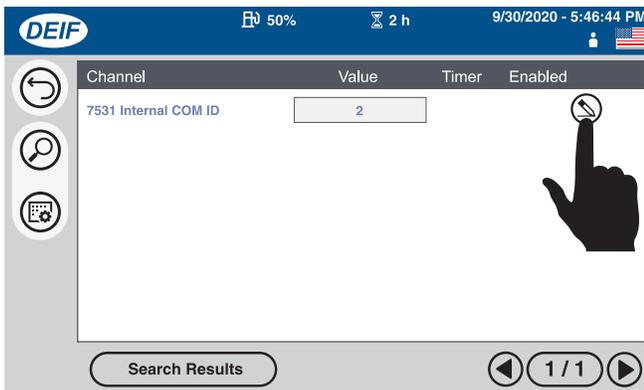

Figure 100. Search Results Screen (Edit Button)
- Wait a few seconds for the parameter search to initialize. The search result will be displayed on the **Search Results** screen (Figure 100).
- Press the **Edit** button (Figure 100).